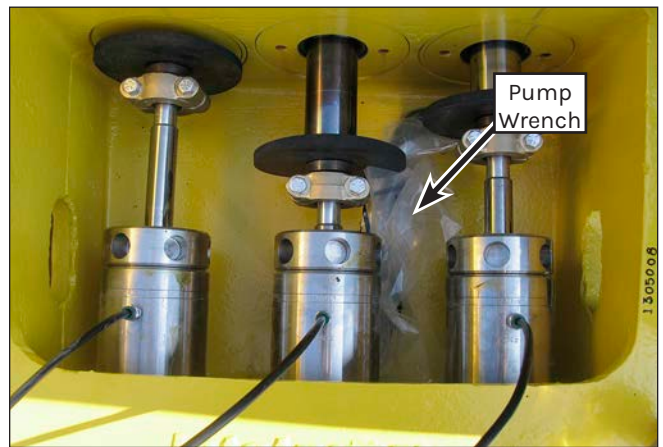

Figure 30: Pump Wrench Removal.
5. Remove the pump wrench from the rod box (Figure 30).